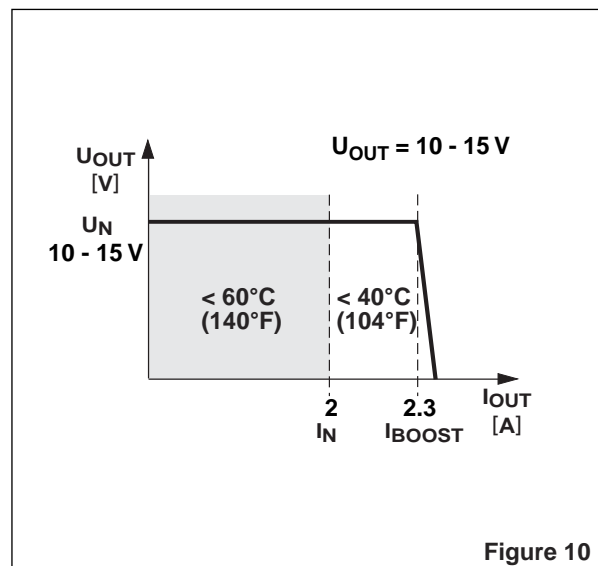

Figure 10
7.1. Output Characteristic Curve (Figure 10).
With high loads, the working point demonstrates the U/I characteristic curve shown in Figure 10.